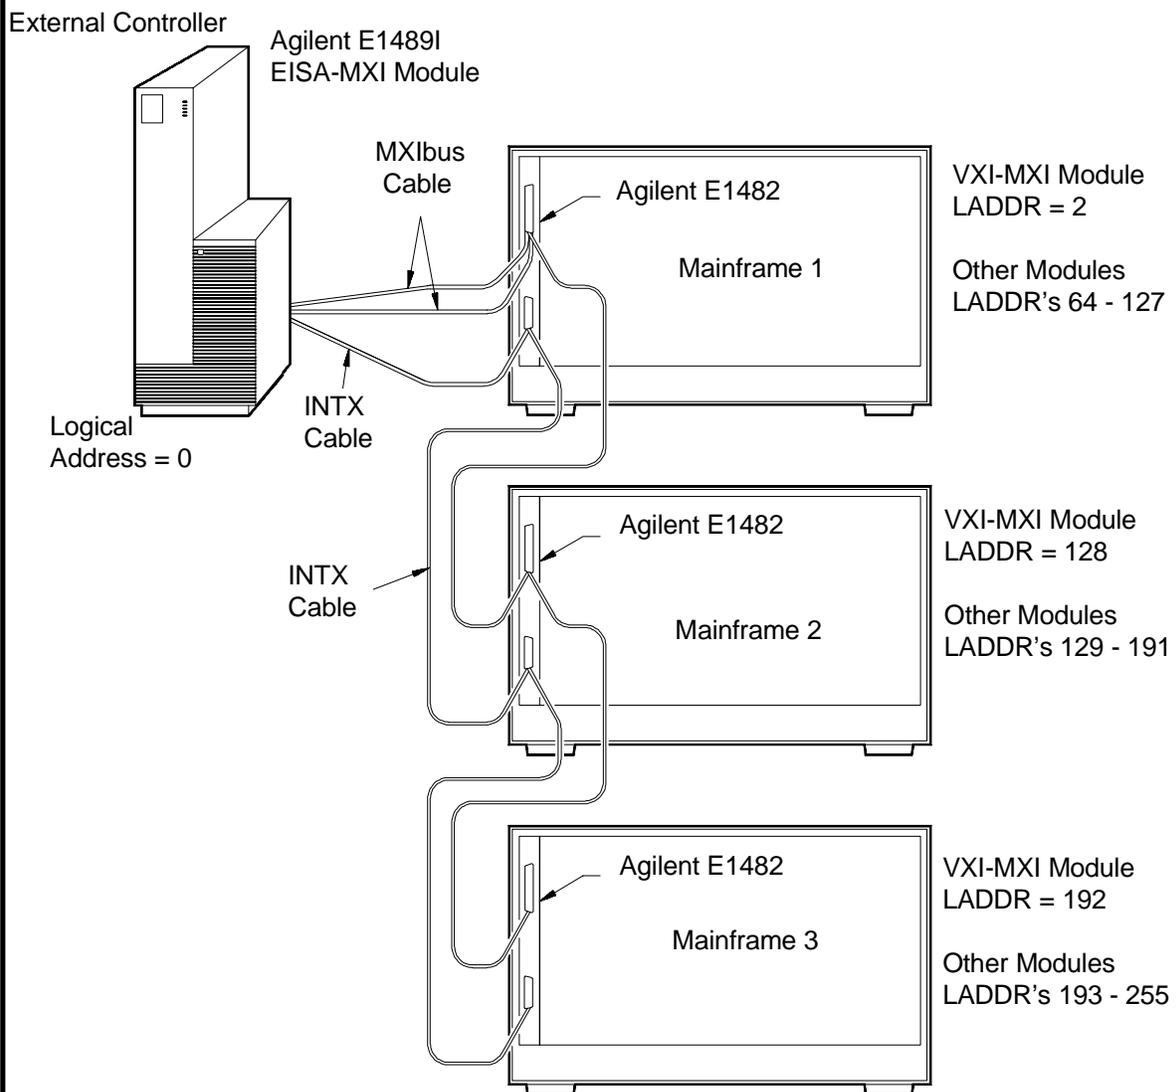

Figure 3-15. External Controller, 3-Frame
- 3-Frame - VXI-MXI (Figure 3-15)